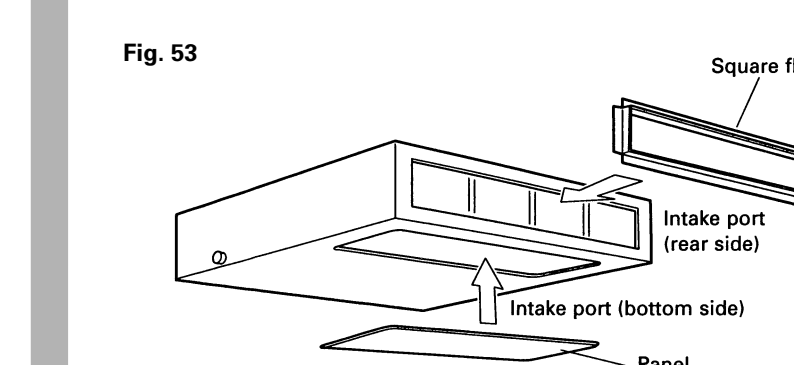

Fig. 53
- (1) The square flange (rear side) and panel (intake panel) are installed at the factory at the places shown in Fig. 53.
- (2) When taking in air from the bottom side, reinstall the square flange (rear side) and panel (intake panel).